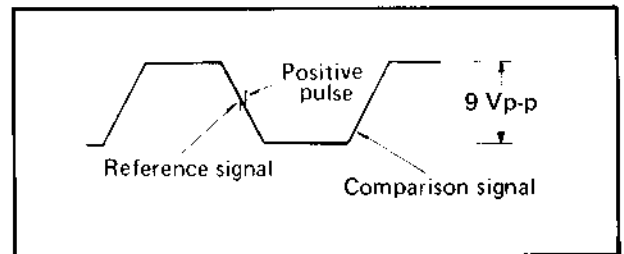

Fig. 6-6 Drum sampling waveform
3. Check the reference signal position as shown in Fig. 6-6.